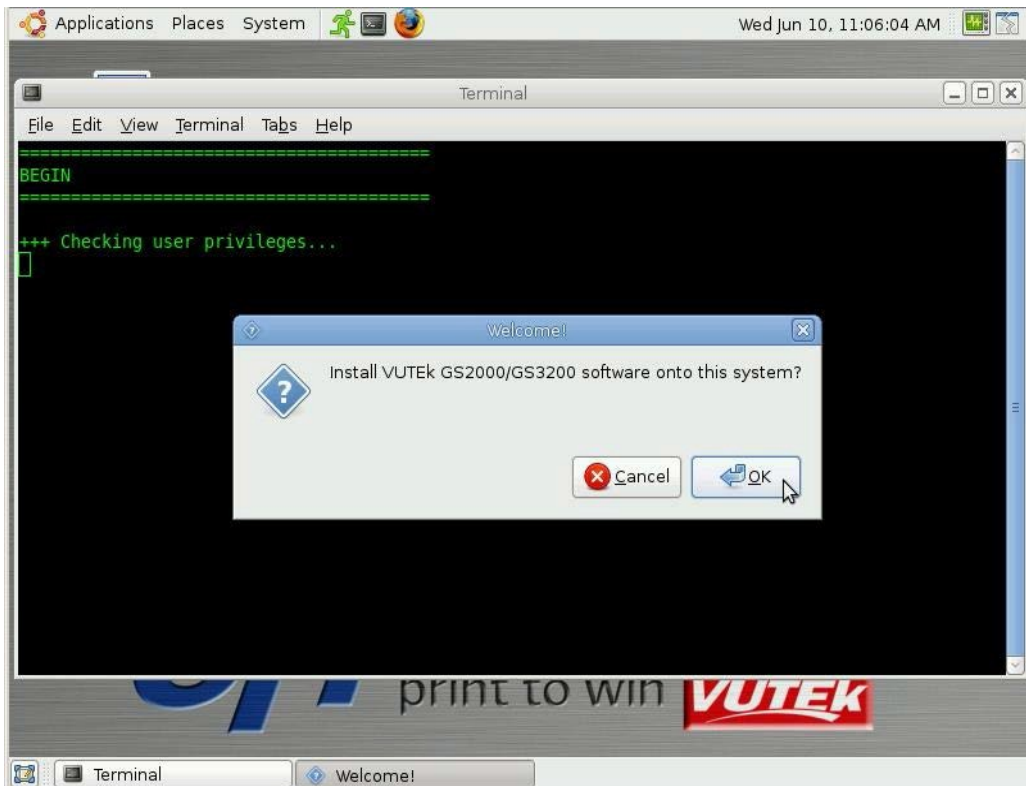

Figure 73: Confirmation Dialog Box
5. After double-clicking on GS2000/GS3200 Installer icon, installer will run and prompt for confirmation to begin installation as shown in **Figure 73**.